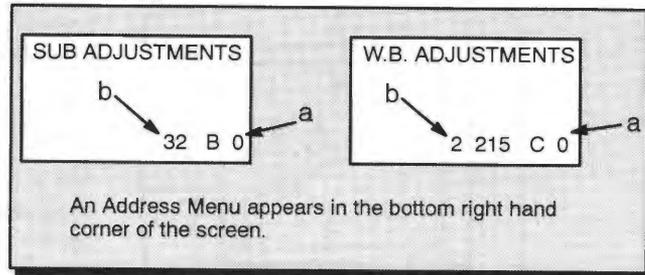

Figure 12. Serviceman Mode Menu Adjustments
Note: Only the applicable settings for the Receiver serviced will be available (see a in Figure 12).
1. Press **Channel Up/Down** on the Remote Control to select one of the 9 available Service Adjustments (a in Figure 12).
Important Note: Write down the original value set (b in Figure 12) for each address before modifying anything. It is easy to erroneously adjust the wrong item.
2. Press **Volume Up/Down** on the Remote Control to adjust the level of the selected Service Adjustment (b in Figure 12).
1. Press **Channel Up/Down** on the Remote Control to select one of the 11 available Service Adjustments (a in Figure 12).
Important Note: Write down the original value set (b in Figure 12) for each address adjustment before modifying anything. It is easy to erroneously adjust the wrong item.
1. Press **Channel Up/Down** on the Remote Control to select one of the 12 available Service Adjustments (a in Figure 12).
1. Press **Channel Up/Down** on the Remote Control to select one of the 14 available Service Adjustments (a in Figure 12).